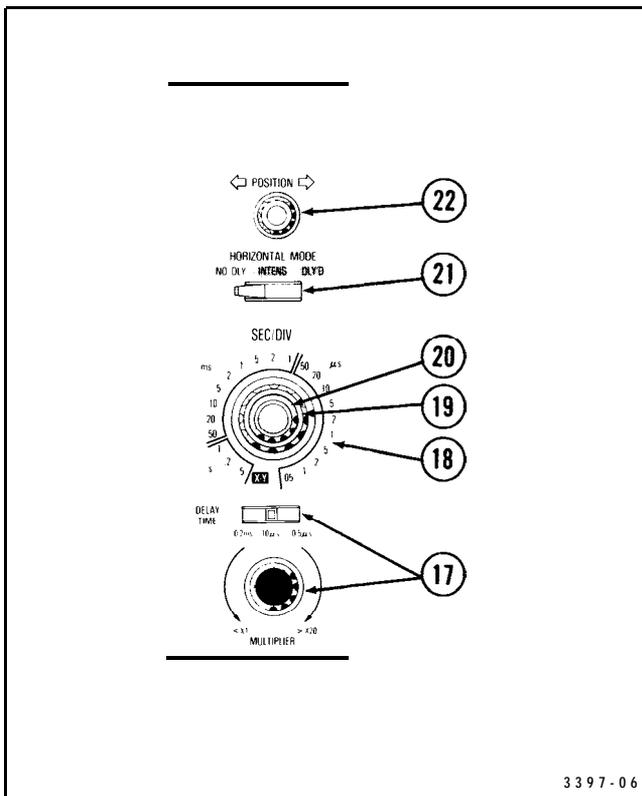

Figure 5. Horizontal controls.
Refer to Figure 5 for location of items 17 through 22.
- ① **DELAY TIME**-Two controls are used in conjunction with INTENS and DLY'D HORIZONTAL MODE to select the amount of delay time between the start of the sweep and the beginning of the intensified zone.